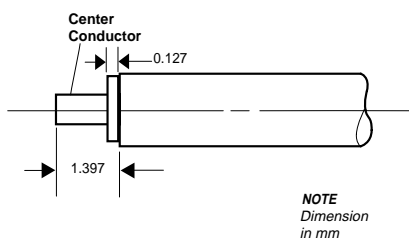

Figure 2. Preparing the Cable
- Insert the cable into position 2 of the 01- 309 fixture until the outer conductor bottoms in the hole and the center conductor is protruding from the back of the fixture. Using cutting tool, cut the center conductor flush with the fixture. After cutting, the center conductor should protrude 1.397 mm from the outer conductor as shown in Figure 2.